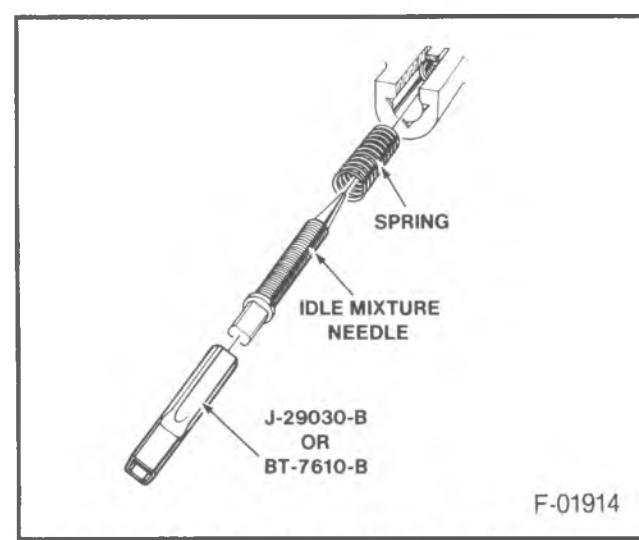

Figure 25 -- Idle Mixture Needle and Spring
- Remove or Disconnect (Figure 25)
- Idle mixture needles (420), and springs (421).
- Inspect (Figure 25)